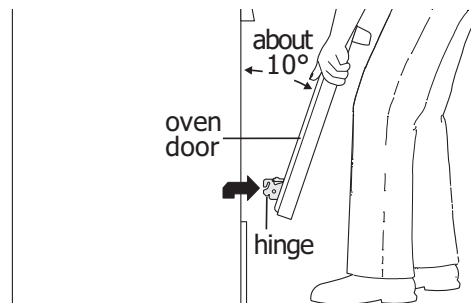

Figure 12: Holding door for removal
3. Firmly grasp both sides of oven door along the door sides. Do not use the oven door handle (See Figure 12).
4. Close the door to approximately 10 degrees from the door frame (See Figure 12).
1. Firmly grasp both sides of oven door along the door sides. Do not use the oven door handle (See Figure 12).
2. Holding the oven door at the same angle as the removal position, seat the hook of the hinge arm over the roller pins located on each side of the oven door frame (See Figure 12 and Figure 13). The hook of the hinge arms must be fully seated onto the roller pins.